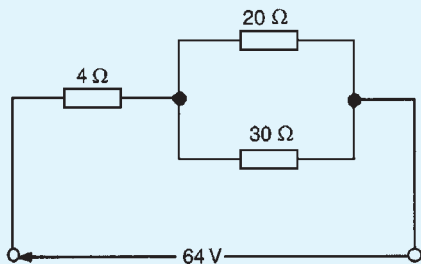

Figure 5.31
7. (a) Calculate the current flowing in the 30 Ω resistor shown in Fig. 5.31. (b) What additional value of resistance would have to be placed in parallel with the 20 Ω and 30 Ω resistors to change the supply current to 8 A, the supply voltage remaining constant. [(a) 1.6 A (b) 6 Ω]